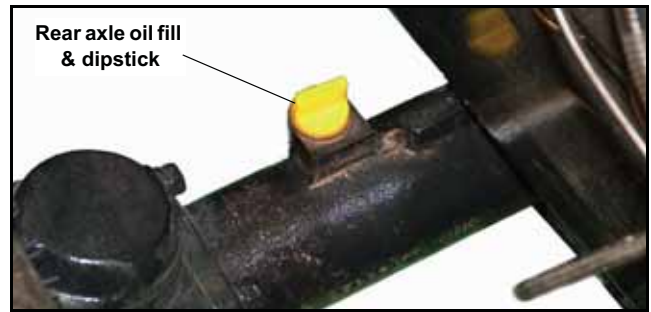

Figure 4-26
NOTE: Place the dipstick/filler plug into the oil inlet to measure the oil level. Do not screw dipstick into housing when checking oil level. Figure 4-26
2. Supply new ISO VG46 hydraulic oil into the fill hole until oil level is between the two marks on the dipstick. Figure 4-26